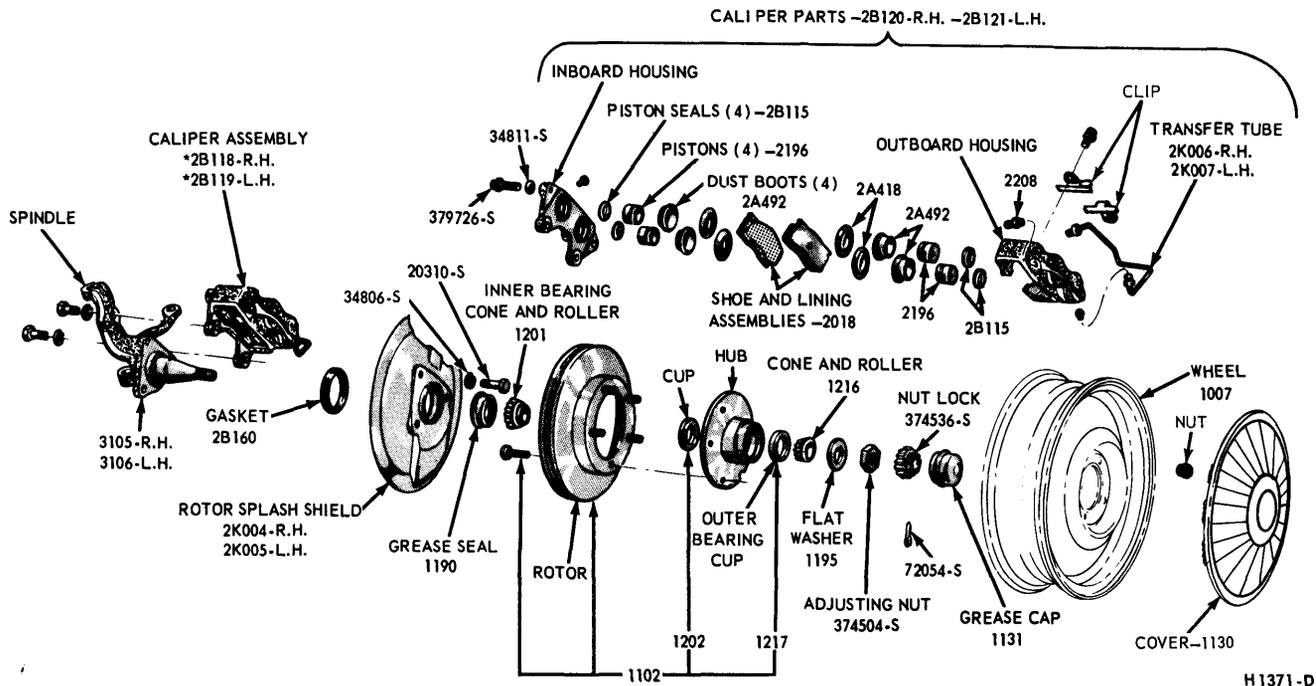

FIG. 20—Disc Brake Disassembled
2. Remove the two bolts that attach the brake shoe retaining clips, (Fig. 20).
2. Disconnect the steel brake line transfer tube from the caliper. (Figs. 20 and 21). **Leave the steel tube connected to the brake hose connector and bracket assembly.**
4. Connect the front wheel steel transfer tube from the caliper to the front brake hose connector. Check the hose for proper installation (Fig. 20).
1. Remove the wheel and tire from the hub. (Fig. 20). **Be careful to avoid damage or interference with bleeder screw fitting or transfer tube.**
1. If the rotor is being replaced, remove the protective coating from the new rotor with carburetor degreaser. Pack a new set of bearings with specified grease (M-1C75A), and install the inner bearing cone and roller assembly in the inner cup. Pack grease lightly between the lips of a new grease retainer and install the retainer (Fig. 20).
2. Remove the three bolts that attach the splash shield to the spindle (Fig. 20).
them to specification (Fig. 20).